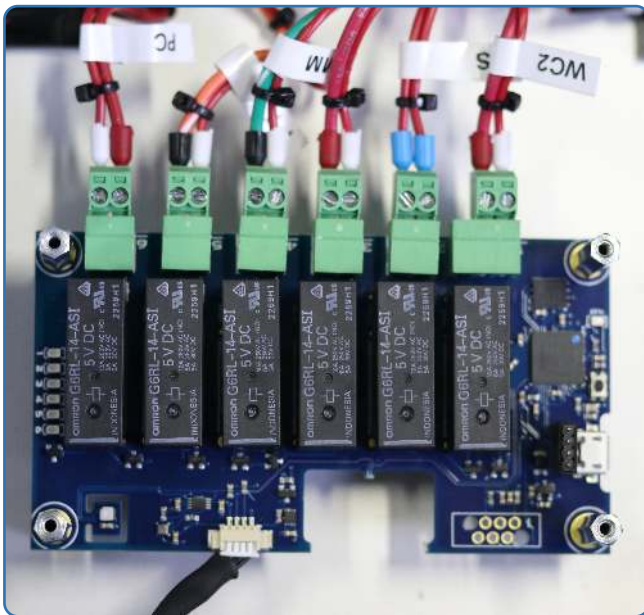

Figure 11: Fixing the bottom part
1. Place the Yocto-Pictor ground floor with relays on the top and the 4 screw tubes (figure 11)